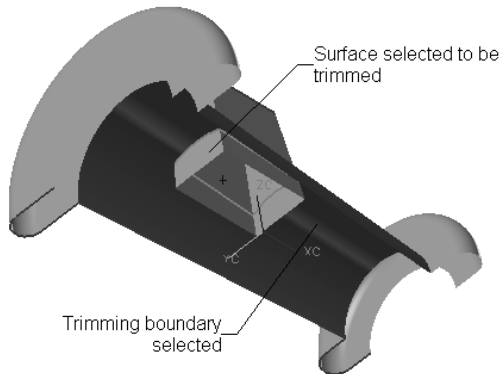

Figure 11-79 The surface to be trimmed and the trimming surface selected from the model
2. Select the sheet to be trimmed, as shown in Figure 11-79; you are prompted to select the trimming objects.
3. Select the trimming surface, as shown in Figure 11-79. Select the **Discard** radio button from the **Region** rollout and then choose the **OK** button. The resulting surface after trimming the extended portion of the extruded surface is shown in Figure 11-80.